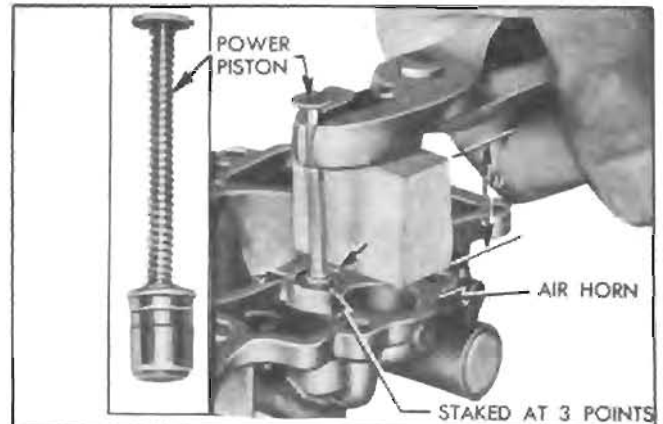

Figure 3-60—Removing Vacuum Power Piston
6. Remove vacuum power piston from air horn by pushing spring down and applying pliers to outer end of piston stem, then using a 1" block of wood as a fulcrum for pliers; pull piston straight up to avoid bending stem. See figure 3-60. **CAUTION:** Do not apply pliers to inner portion of stem because any nicks may cause later sticking of piston.